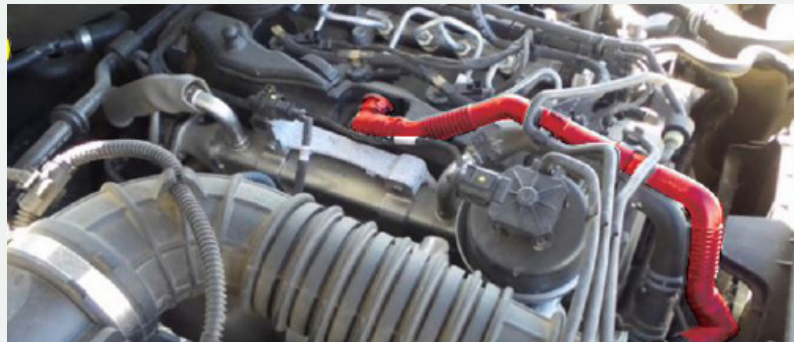

FIGURE 7.2
- 2 Locate the factory PCV valve. Remove the factory rubber ventilation hose and store for safe keeping, as shown in Fig. 7.2.